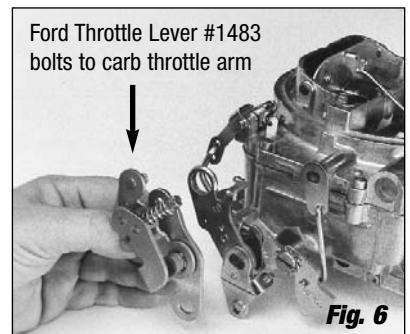

Fig. 6
- Compare the throttle arm of your new carburetor with the old one to be sure that all required linkages will hook up. Install the proper throttle and transmission linkage for your particular application. Throttle stud is removable and must be installed in the proper location. Chrysler vehicles with automatic transmission will require Throttle Lever Kit #1481. Ford vehicles with automatic transmission and cable linkage will require Throttle Lever Kit #1483 (**See Fig. 6**) and Throttle Cable Plate Kit #1490 (for 289-302), #1491 (for 351-W), #1493 (for 351-C & 351-M/400), or #1495 (for 429/460).